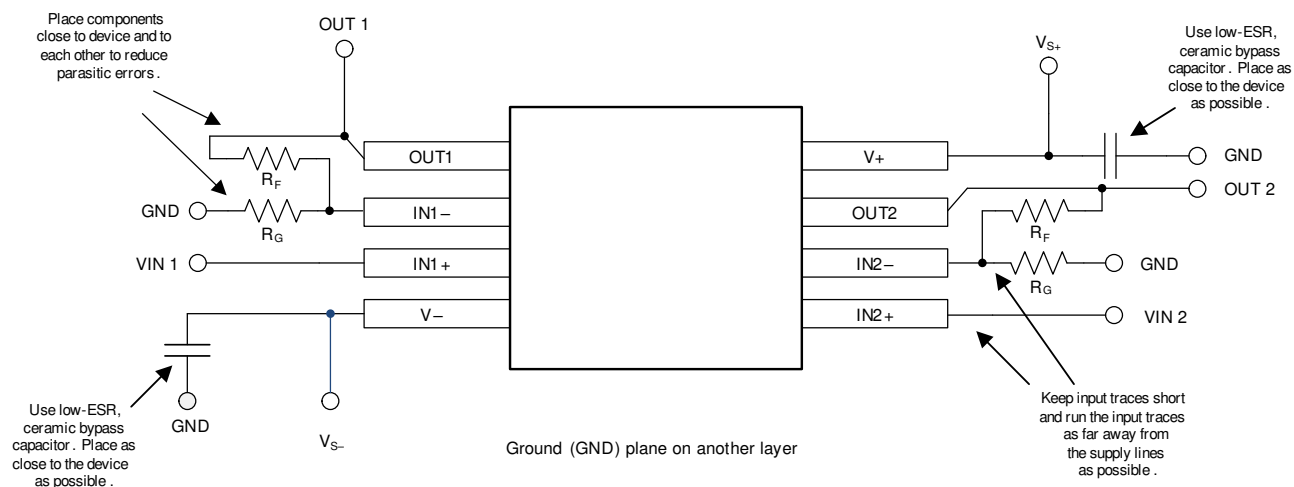

图 45. Layout Example
- Place the external components as close to the device as possible. As illustrated in 图 45, keeping RF and RG close to the inverting input minimizes parasitic capacitance on the inverting input.